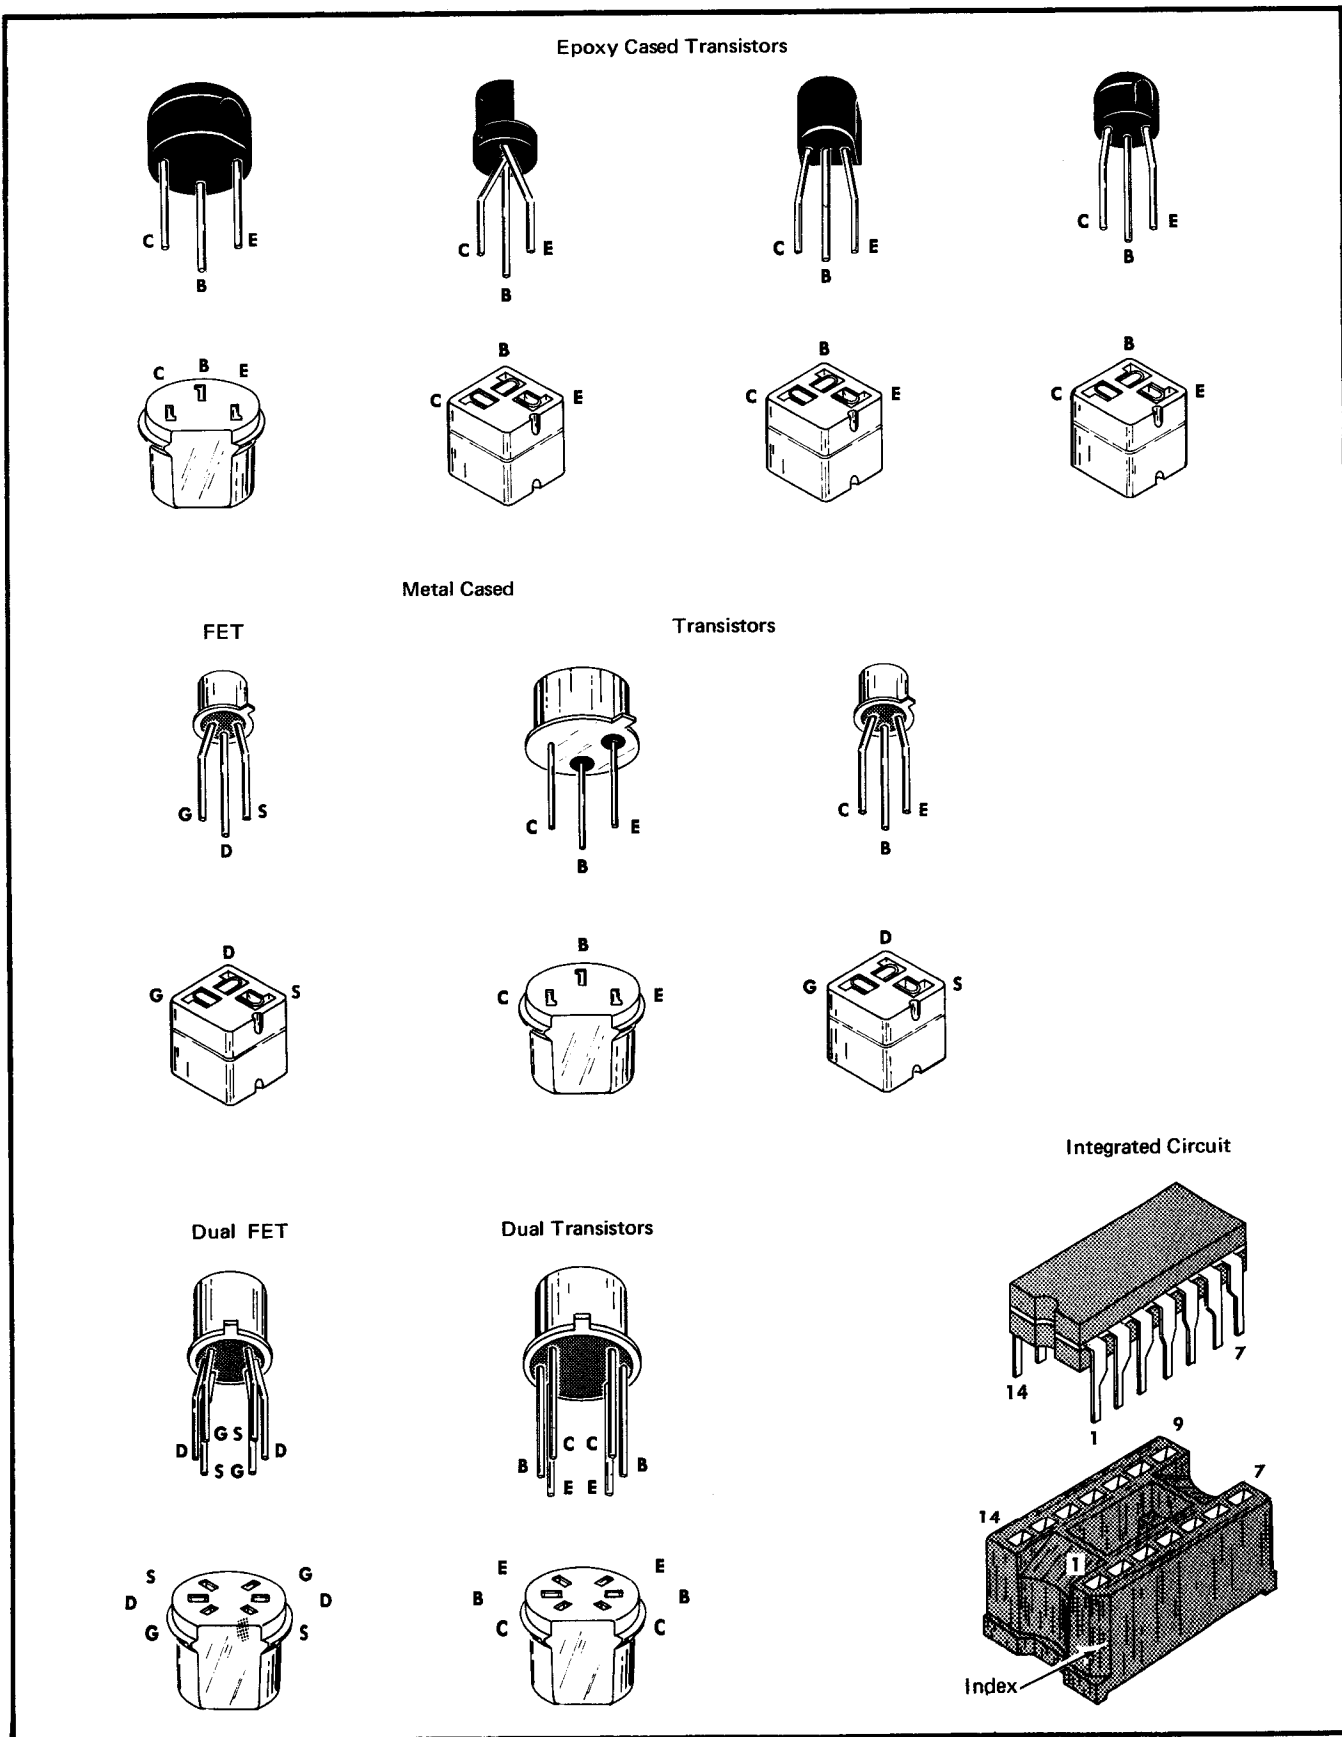

Fig. 4-2. Electrode configurations for socket-mounted semiconductor devices.
Fig. 4-2 shows the lead configurations of the transistors and integrated circuits used in this instrument. This view is as seen from the bottom of the device.
7. Check Semiconductors. Most circuit failures result from the failure of a transistor, FET, diode, or integrated circuit due to normal aging and use. The following explains various methods of checking semiconductor devices. Insertion information is provided in Fig. 4-2.